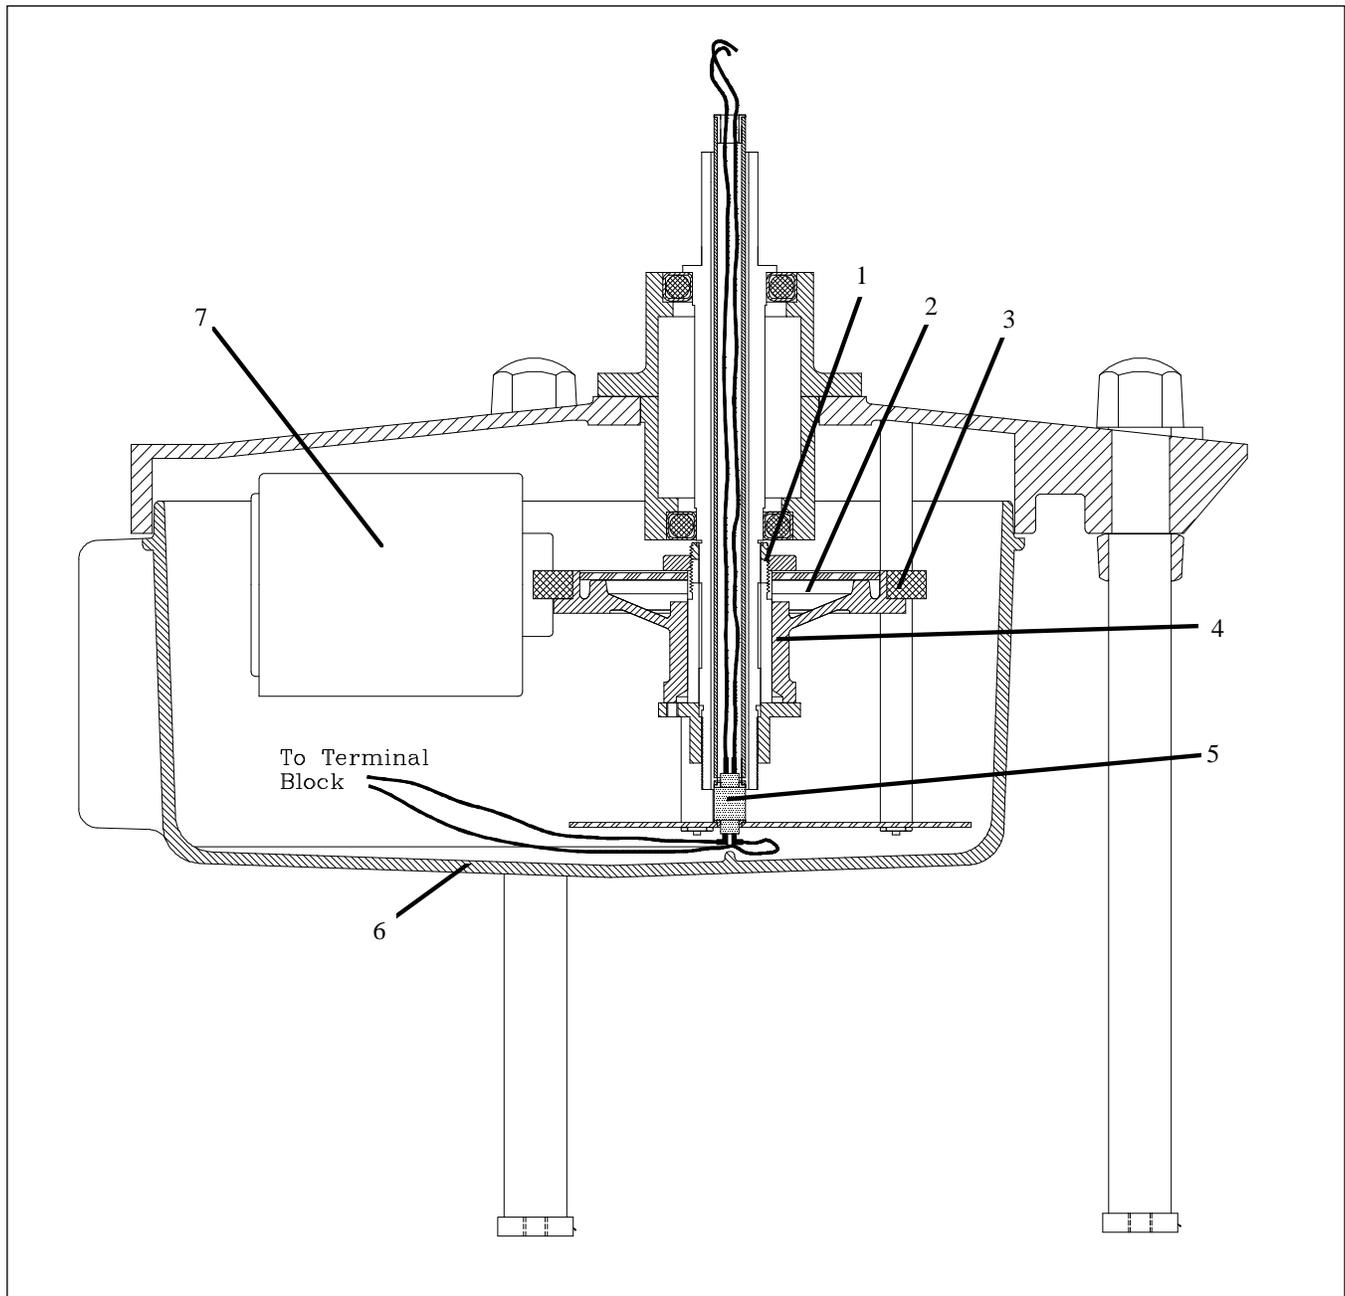

Figure 6. Removing Lower Pan
1. See Figure 6. Remove the lower pan (5) by unlatching the four over-the-center latches. Place the pan out of the way to facilitate repair work.
1. See Figure 6. Remove the lower pan (6) by unlatching the four over-the-center latches. Place the pan out of the way to facilitate repair work.
6. See Figure 6. Remove the clutch plate/worm gear assembly (2) by locating the large hex brass nut (1) on top of the worm gear (3). Loosen and remove the long hex socket head cap screw found on the side of the hex.
7. Loosen the two set screws found on the side of the brass collar (4).